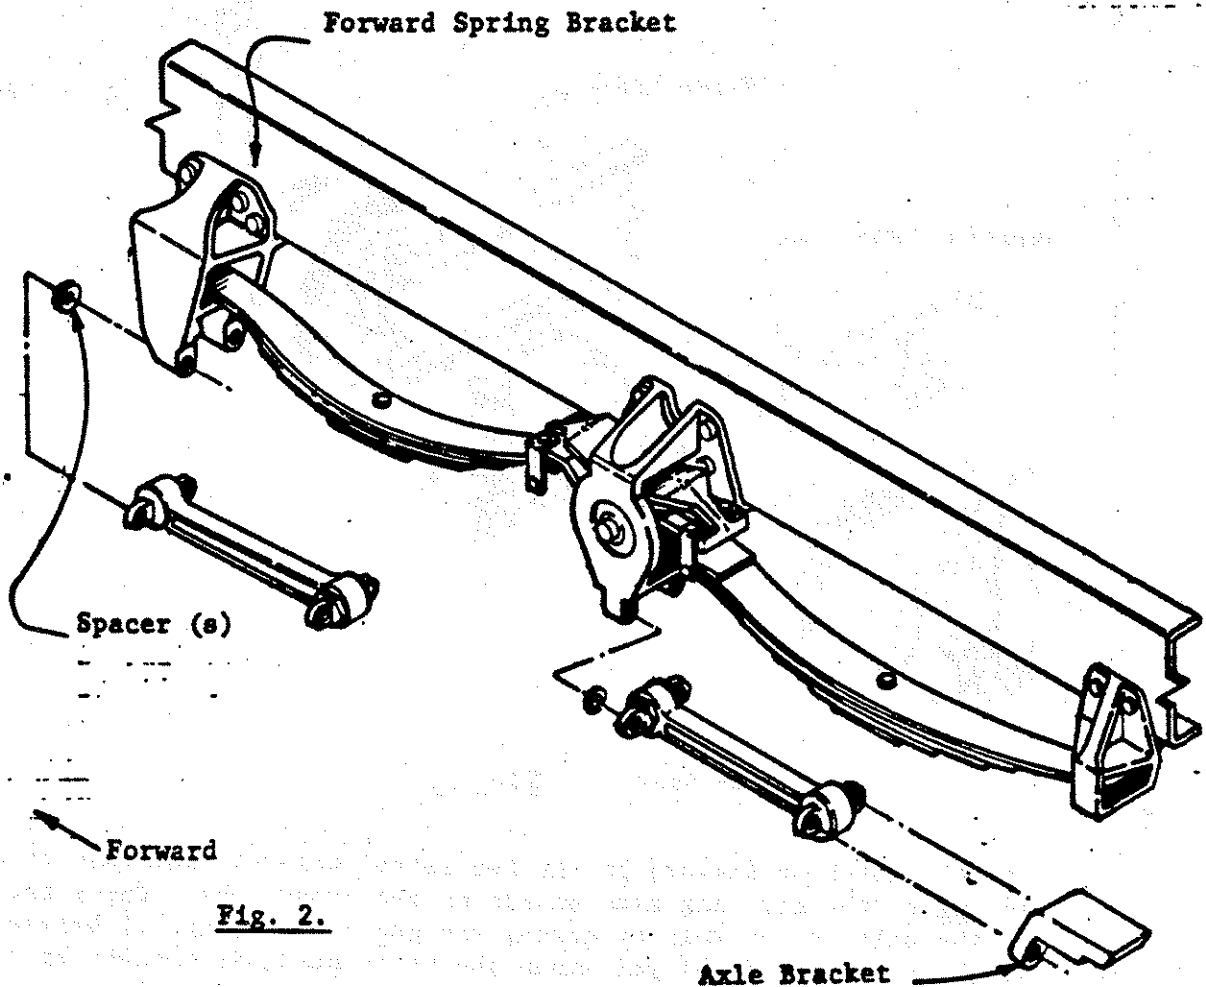

Fig. 2.
B. Washers will be needed if there is a gap of 1/16 or more under either point of the fixture. Washers should be added on the left or right side between the forward spring bracket and the radius rod (fig. 2).
Set the two points of the tool in the axle center holes on one side of the vehicle and lock them in position. Transfer the tool to the other side of the vehicle and compare the axle spacing. If there is more than 1/16 difference in the spacing on one side of the vehicle compared to the other, washers must be added to the rear axle radius rods. The washers should be located on the left or right side between the equalizer bracket and the radius rod (fig. 2).